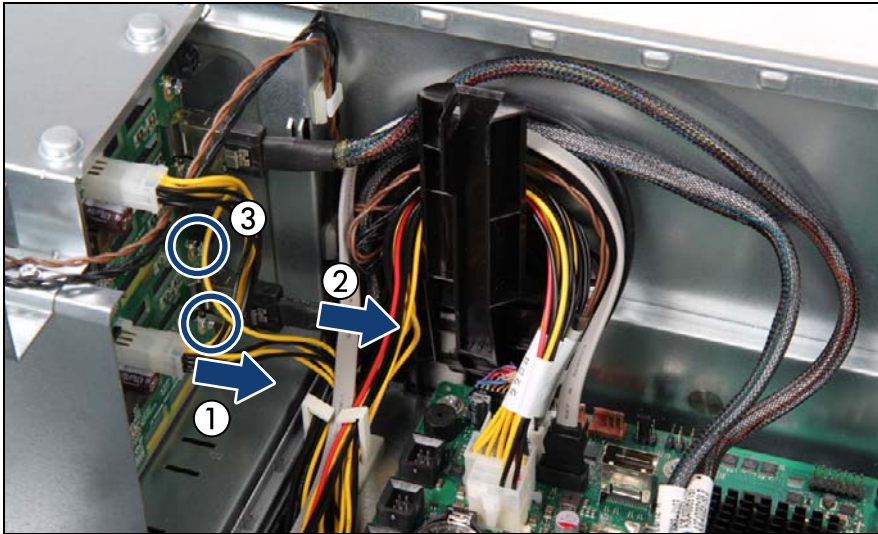

Figure 73: Disconnecting cables
- ▶ At a slight angle, fit the SAS backplane into the two guides on the HDD cage (1).
- ▶ Fold down the SAS backplane (2).
- ▶ Secure the SAS backplane with the two screws (see figure 73).
- ▶ Connect the power cable and the SAS cable to the SAS backplane (see figure 73).